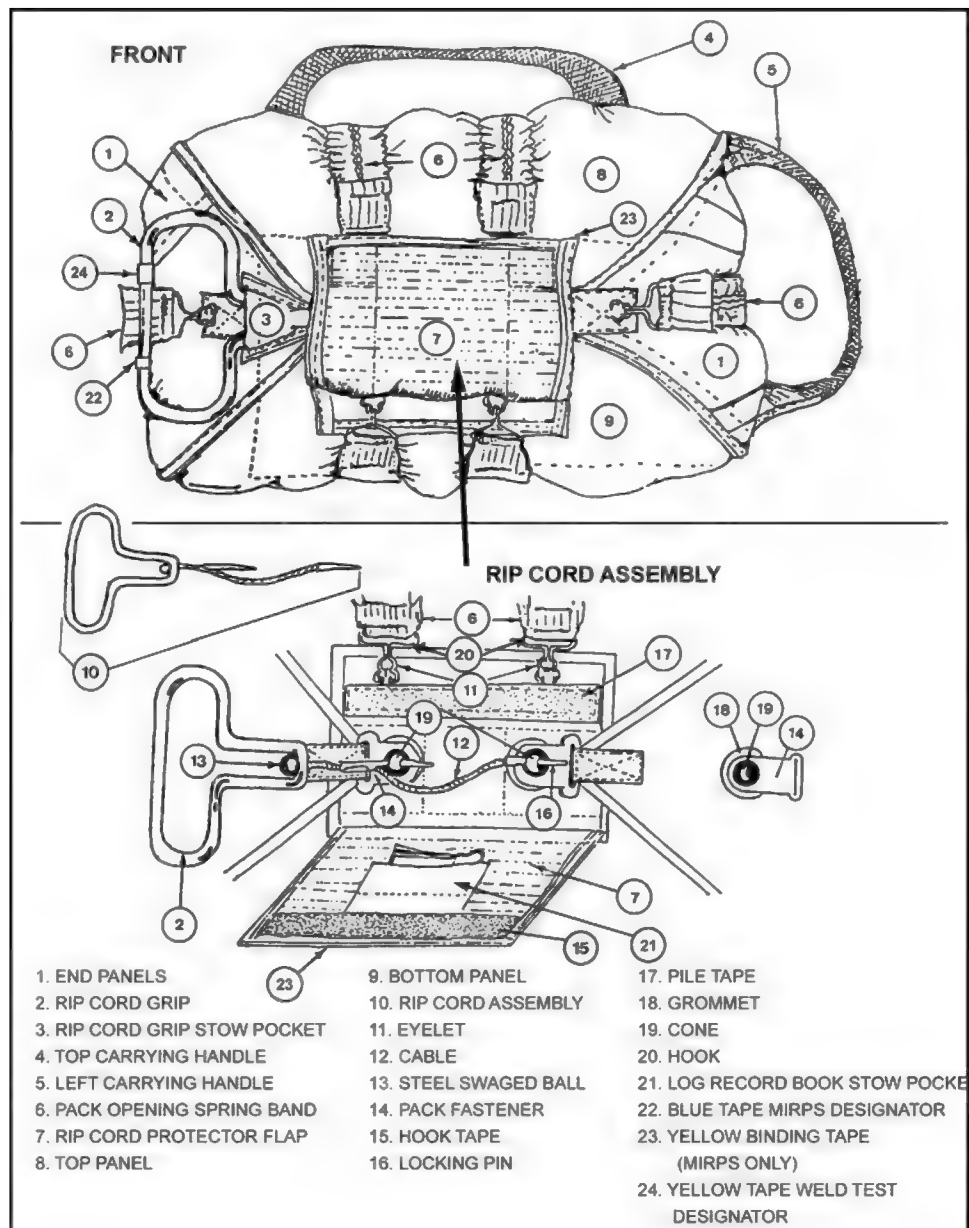
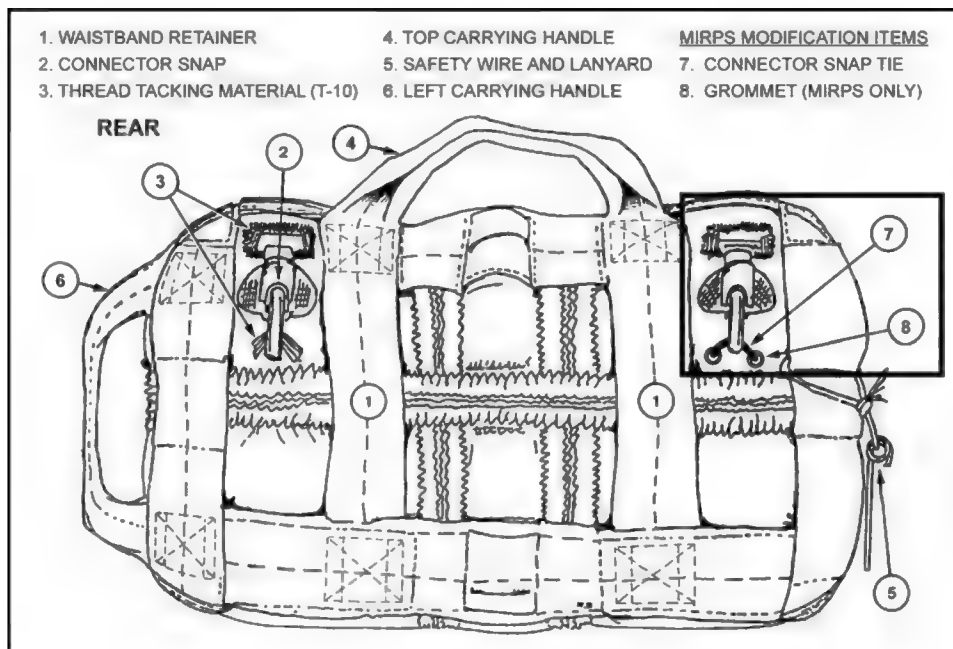

Figure 2-7. MIRPS/T-10 reserve parachute pack tray and nomenclature (front).
Figure 2-8. MIRPS/T-10 reserve parachute pack tray and nomenclature (back).
- (1) An apex vent, 20 inches in diameter.
- (2) Twelve suspension lines, 57 feet 6 inches long (measured from connector snap to connector snap), made of Type III nylon cord with a tensile strength of 550 pounds. On this parachute, the suspension lines serve three purposes:
- (3) An upper lateral band of 1-inch tubular nylon with a tensile strength of 4,000 pounds.
- (4) A lower lateral band of 1-inch nylon tape with a tensile strength of 525 pounds.
- (5) Twenty-four gores with four sections in each gore.
- (6) A 9/16-inch nylon V-tab reinforcement sewn into the lower lateral band of the parachute and wrapped around each suspension line.
- (7) Twenty-four pocket bands.
e. **Pack Tray.** The MIRPS and the T-10 troop chest reserve use different pack trays that are almost identical on the outside (Figure 2-7 and Figure 2-8, page 2-12). Thus, an identifying yellow binding tape on the rip cord protector flap distinguishes the MIRPS. The major parts of the pack tray used for the MIRPS are the main panel and two end panels. The main panel forms a top and bottom flap, and the end panels form a right end flap and a left end flap. A rectangular metal pack frame is enclosed in a pocket formed in the bottom. The pack has two holes with lift-the-dot strap fasteners for attaching the MIRPS to the primary parachute harness using the connector snaps. A suspension-line free-bag deployment pouch is located on the inside of the container on the pack bottom. Canopy staging flaps are attached to the inside of the top and bottom flaps; these provide canopy retention.
c. **Pack Tray.** The pack tray is made of 12.29-ounce nylon or 7.25-ounce nylon on a rigid frame (Figures 2-7 and 2-8). It contains the parachute until activation. The pack tray is described as follows:
- (1) Carrying handles (top and left).
- (2) A safety wire and lanyard.
- (3) Four panels (right end panel, left end panel, top panel, and bottom panel) with attached eyelets.
- (4) Three pack opening spring bands with six running ends connected to six hooks.
- (5) A rip cord grip stow pocket sewn to the right-end panel.
- (6) A rip cord protector flap sewn to the bottom panel, with log record stow pocket on the inside of the rip cord protector flap.
- (7) Pack fasteners sewn to the left- and right-end panels.
- (8) Grommets and cones that keep the pack closed by inserting the locking pins of the rip cord assembly through the cones. (Grommets are on the top panel and cones are on the bottom panel.)
- (9) Two connector snaps to attach the reserve to the D-rings.
- (10) Two nylon waistband retainers through which the waistband is routed. The waistband retainers consist of a single piece of material sewn into the pack tray, which forms the reserve top carrying handle.